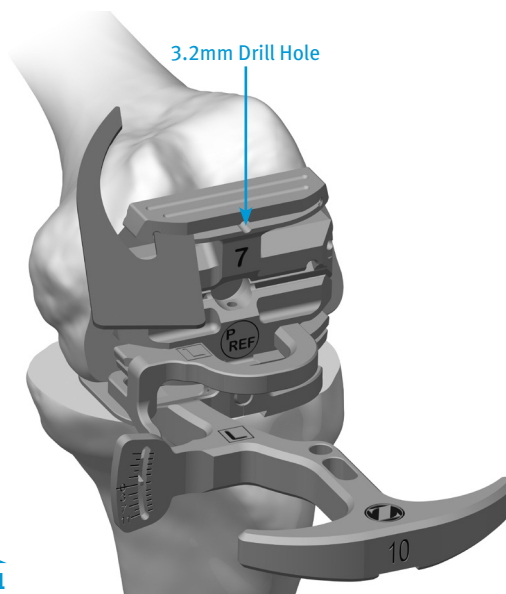

Fig. 41
- Check for notching by placing a resection guide in the anterior cut slot or by using a 3.2mm Drill in the drill hole in the anterior cut slot of the *Persona* Posterior Referencing 4-in-1 Cut Guide before making cuts. Change size as appropriate to avoid notching (Fig. 41).